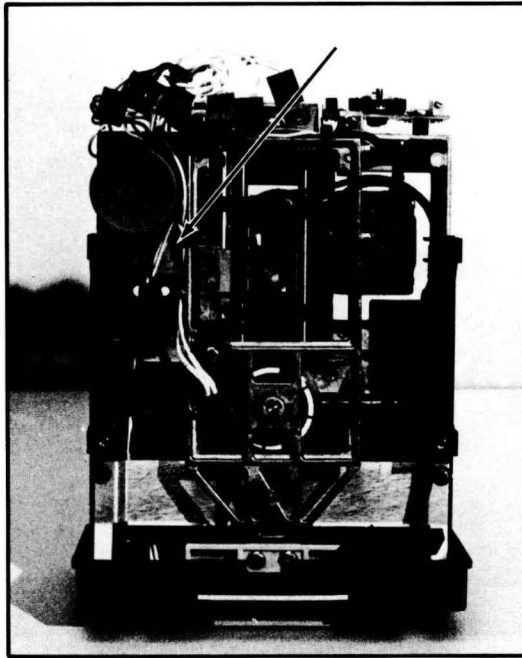

Figure 5-6. Track 0 Retaining Screw
- i. Slightly loosen the track 0 switch retaining screw shown in section V (see fig. 5-6).